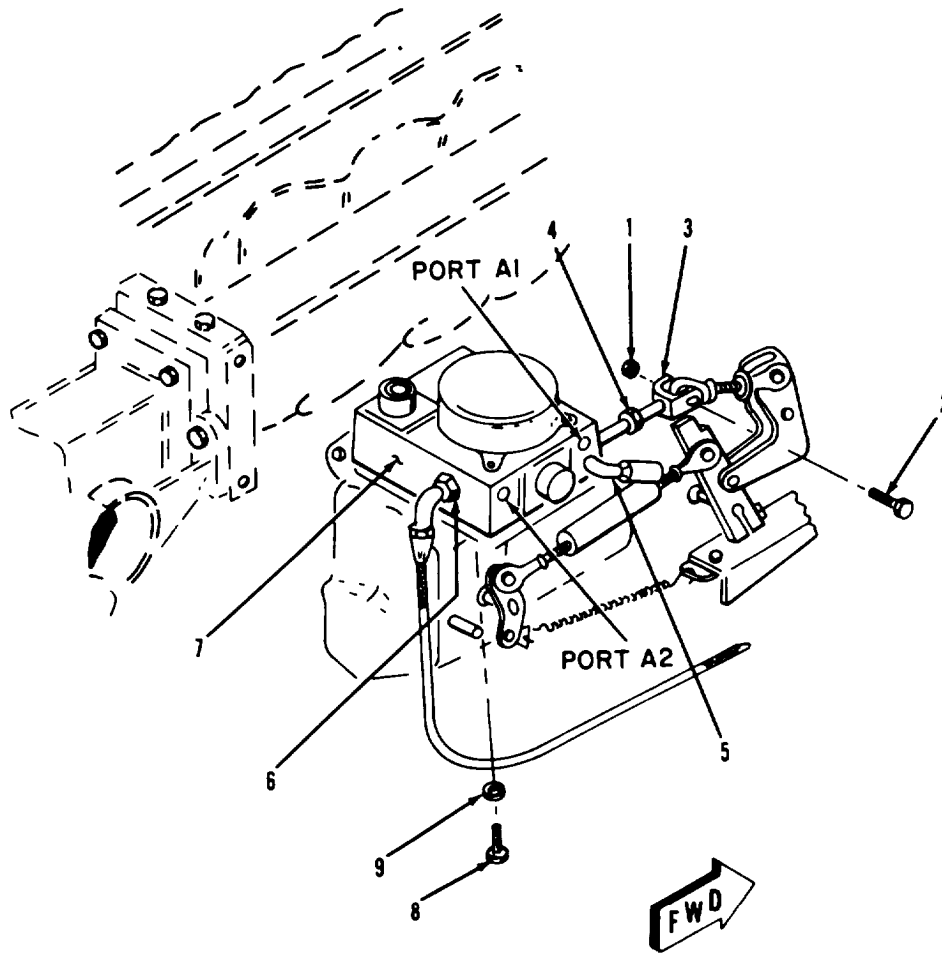

Figure 8-25. Governor actuator unit, removal and installation (precise sets only)
4. Check pressure output of hydraulic actuator by removing plugs in ports A1 and A2 (figure 8-25) and inserting 0 to 400 PSI range gauges. The pressure at each port should be  $160 \pm 25$  PSI and equal, with engine operating under governor control.
b. Removal. Refer to figure 8-25 and remove governor actuator unit in order of
Legend to figure 8-25: